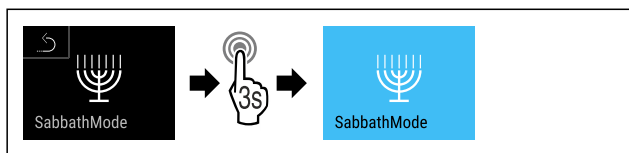

Fig. 11
- ▶ Complete the steps (see Fig. 11).